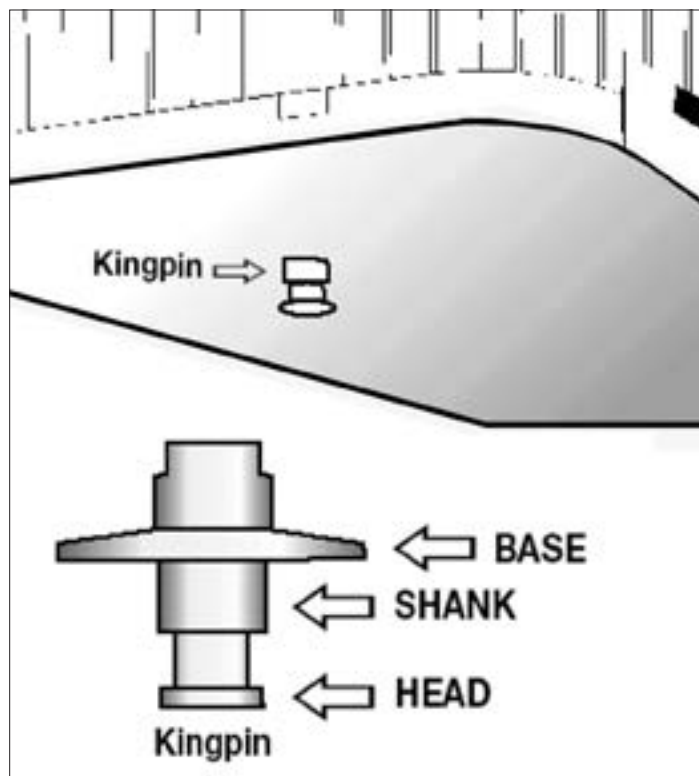

Figure 6.8
- Locking jaws around the shank, not the head of kingpin. See Figure 6.8.